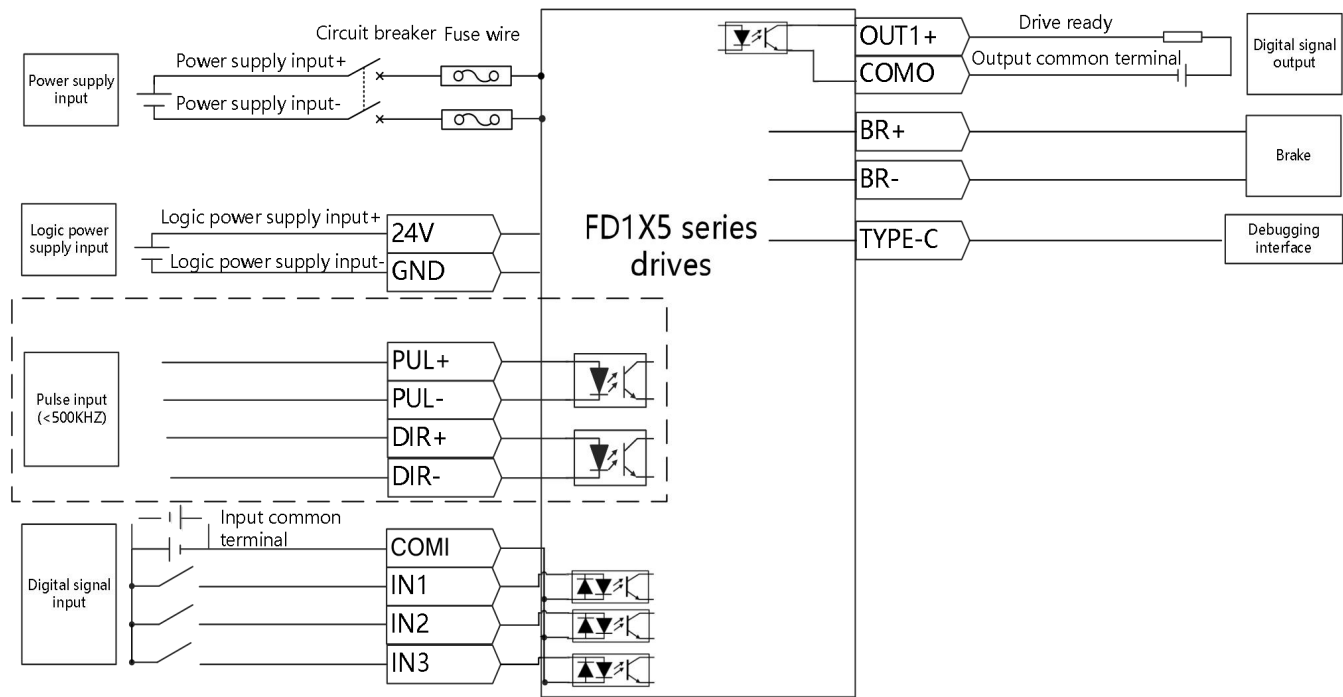

Figure 3-6 FD1X5 series drivers electrical wiring diagram
- Figure 3-6 shows the wiring of the FD1X5 series driver with the default IO function. More IO functions can be defined by the upper computer software.